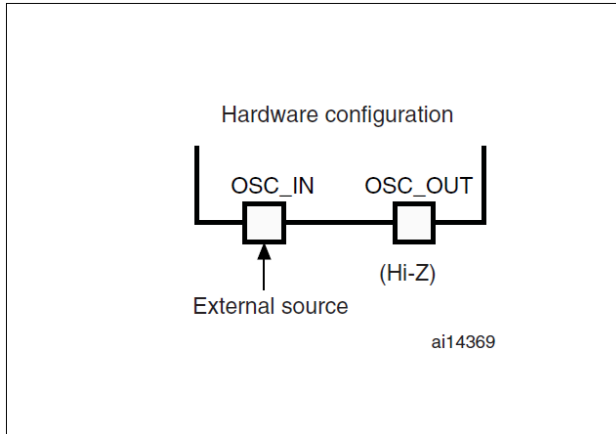

Figure 4. External clock
- HSE user external clock (Figure 4)